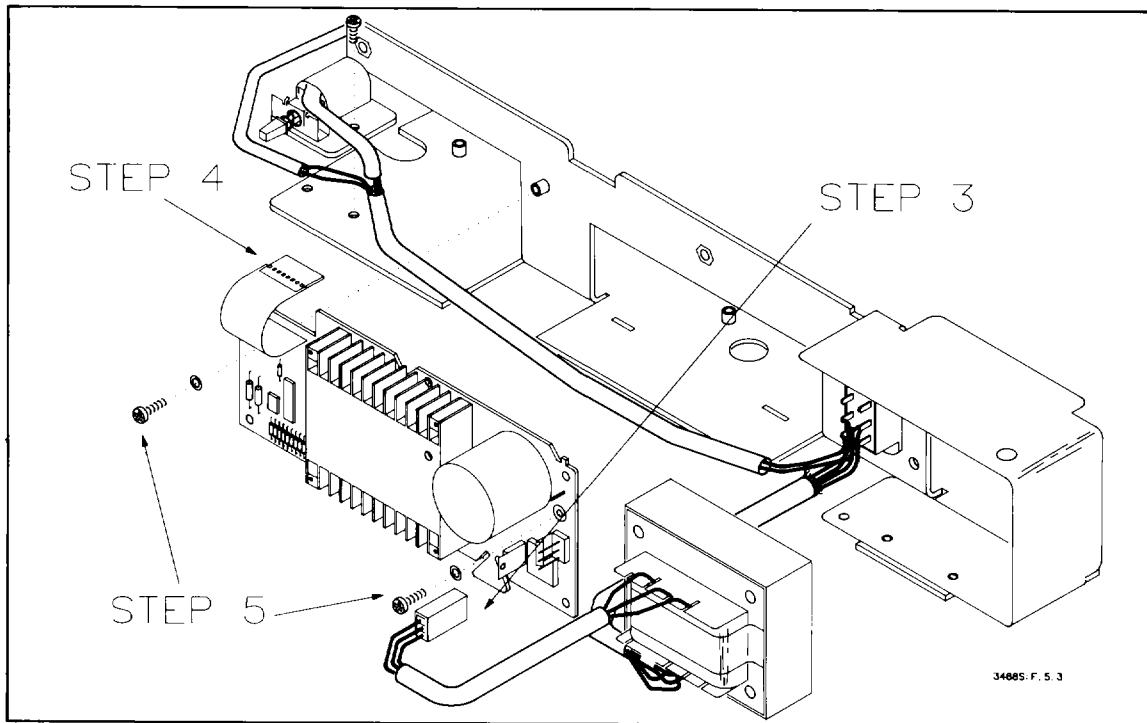

Figure 5-3 Power Supply Removal
3. Disconnect the power supply printed circuit board from the line power transformer by removing the white three conductor connector located near the right edge of the circuit board (see Figure 5-3).
4. Disconnect the power supply from the backplane circuit board by removing the connector on the top of the backplane board (see Figure 5-3). DO NOT excessively flex the cable.
5. The power supply printed circuit board can now be removed from the mainframe by removing the two Pozi-drive screws holding it in place. Figure 5-3 shows the location of these screws. Lift the power supply assembly straight up so that the bottom tabs on the circuit board clear the slots in the sheet metal.